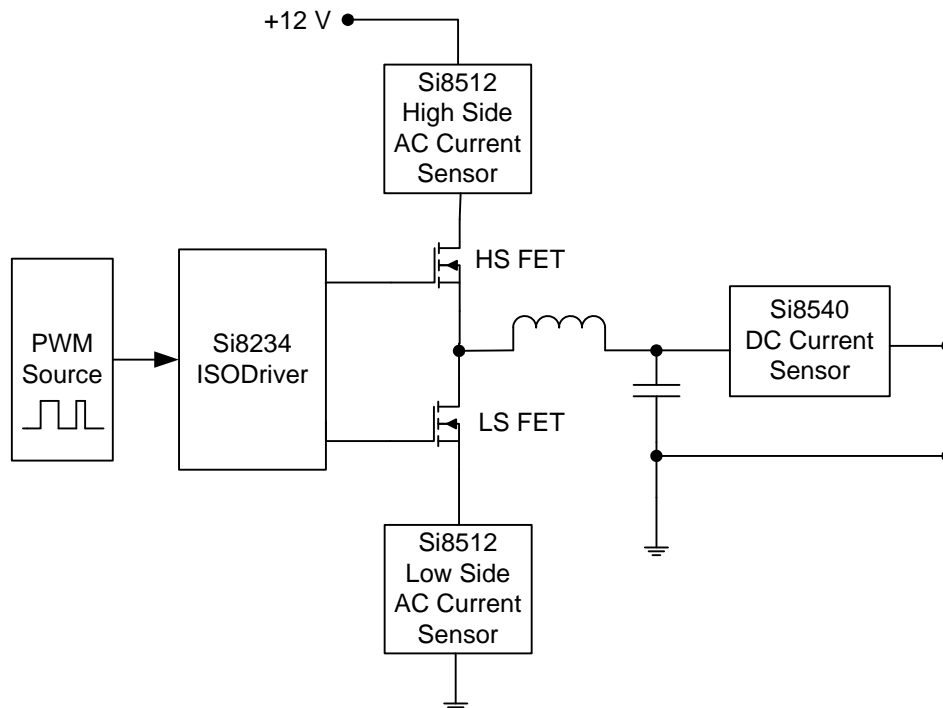

Figure 1. Open Loop POL High-Level Schematic
The Open Loop POL Evaluation Board implements a single-phase POL (an architecture similar to that found in switch-mode power supplies, motor control, inverters, and ballast lighting) whose switching frequency can be varied from 100 to 500 kHz. Its duty cycle can be varied from 20 percent to 80 percent. Figure 1 illustrates a high-level schematic overview. This variability provides a convenient means to fully evaluate the various products featured on the board. The Open Loop POL evaluation board shown in Figure 2 uses Silicon Laboratories' Si8234 ISODriver to drive the high-side and low-side FETs. It uses two Si8512 ac current sensors to monitor the switching currents in the high-side and low-side FETs respectively. The board also uses the Si8540 dc current sensor to monitor the dc current being delivered to the load. Refer to the Si85xx, Si823x, and Si854x family data sheets for more information concerning their operation.
1. See Figure 1.